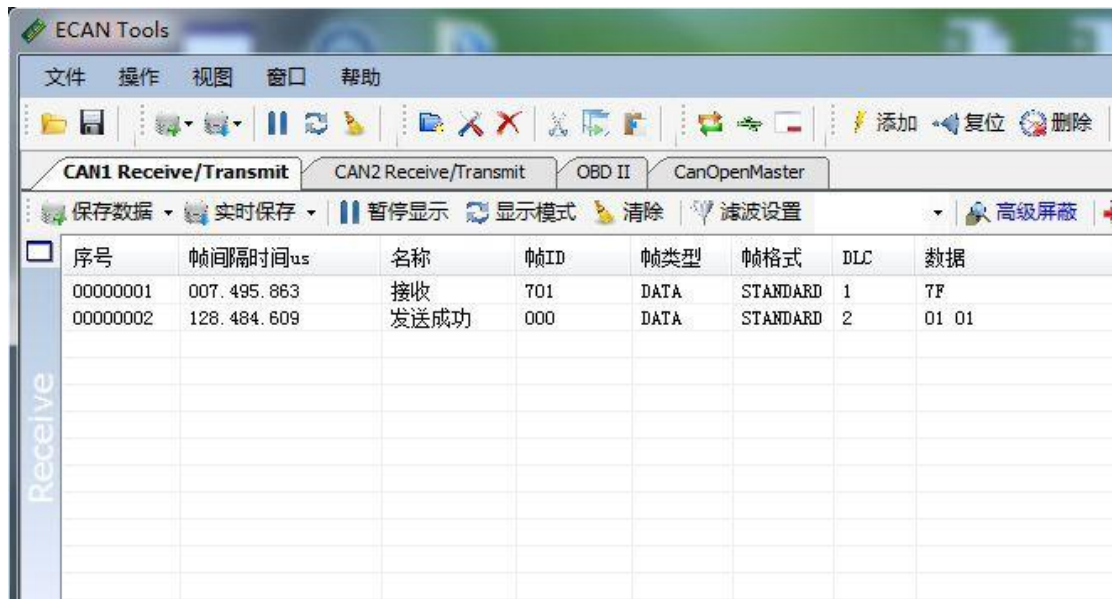

Figure 4.3 NMT command monitoring interface
- ① Fill the slave node number into the text box behind the ID
- ② click the Add Slave button
- ③ open the + sign on the left side of the node, and click " NMT"
- ④ Select "Start Remote Node" (default), and click the "NMT" button below. As shown in Figure 4.3, the NMT command can be viewed in the ECANTools monitoring interface after sending.